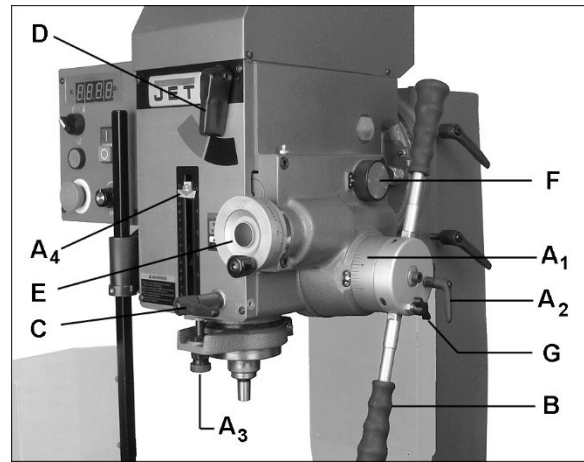

Figure 8-1: operating controls (tapping model 45VSPFT shown)
3. Place speed lever (see D, Figure 8-1) to low speed range (black).
Refer to Figures 8-1 and 8-2.
See Figures 8-1 and 8-2.
See Figures 8-1 and 8-2:
4. Tighten spindle lock (C, Figure 8-1) at desired height.